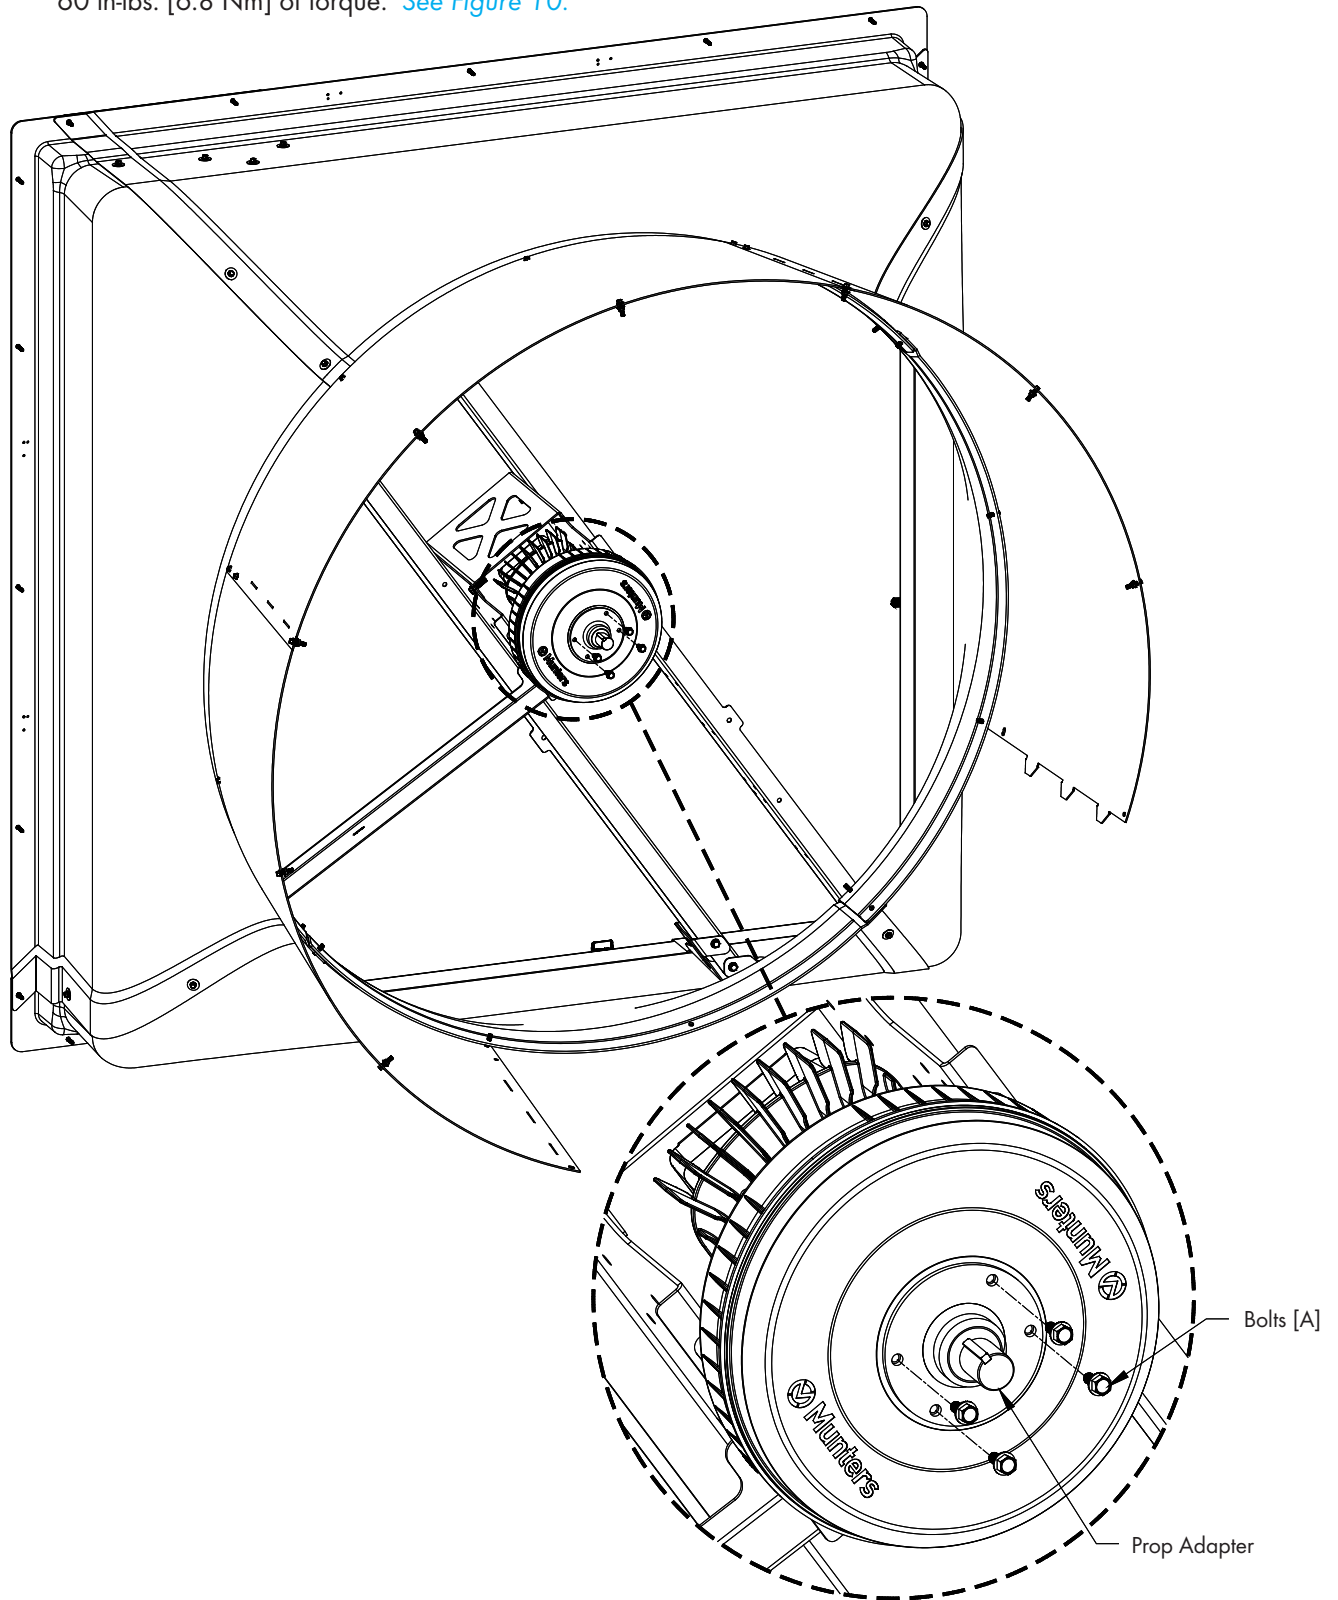

Figure 10
Attach the Prop Adapter removed in Step 5 to new Motor/Drive using (4) new Bolts [A]. Tighten Bolts to 60 in-lbs. [6.8 Nm] of torque. See Figure 10.